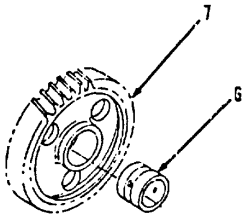

Figure 3-22.
- 7. Install bearing (6) in gear (7, Figure 3-22). The end of the bearing must be .60 inch below the face of the gear hub.